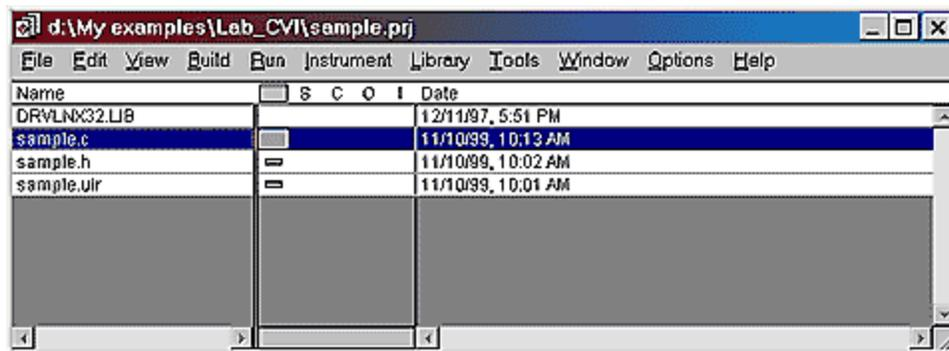

Figure 1: CVI IDE Environment
- When you launch the "CVI IDE" (Integrated Development Environment) you should see a screen similar to the one shown in *Figure 1*. You will need to add source code (*.c), header files (*.h), and libraries (*.lib) to your project, just as you would with a Visual C/C++ project.